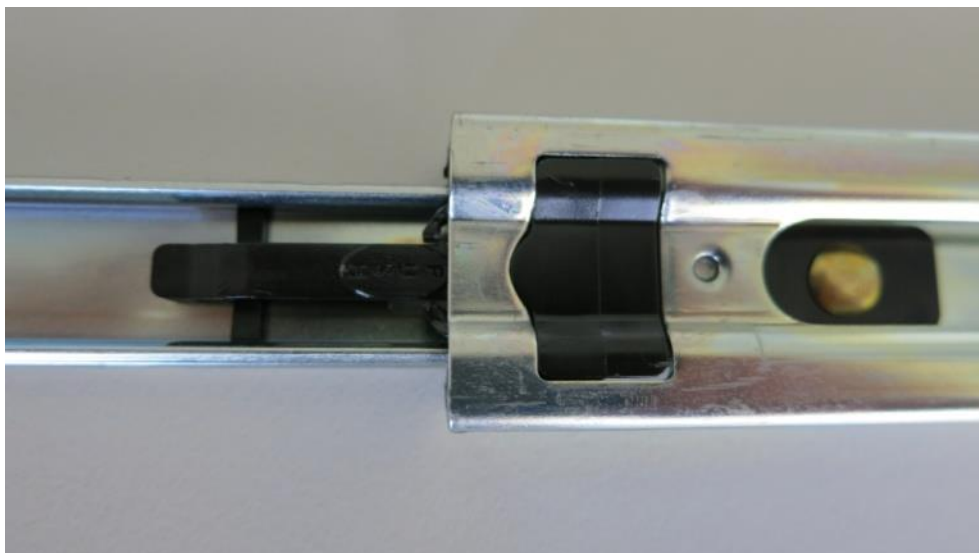

Figure 152 – Separate Rack Slides
2. Refer to Figure 152. Separate the slide rail assembly by pressing the black plastic clips in the slide rails to remove the inner section of the rail.